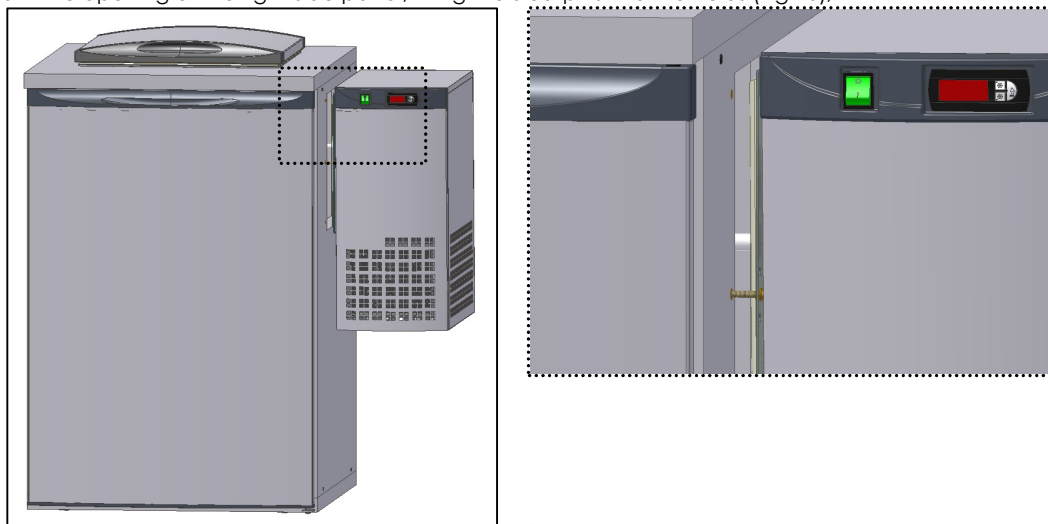

Fig. 13
- Insert the V6 in the opening of the right-side panel, fixing the stud-pins into the holes (Fig 13);